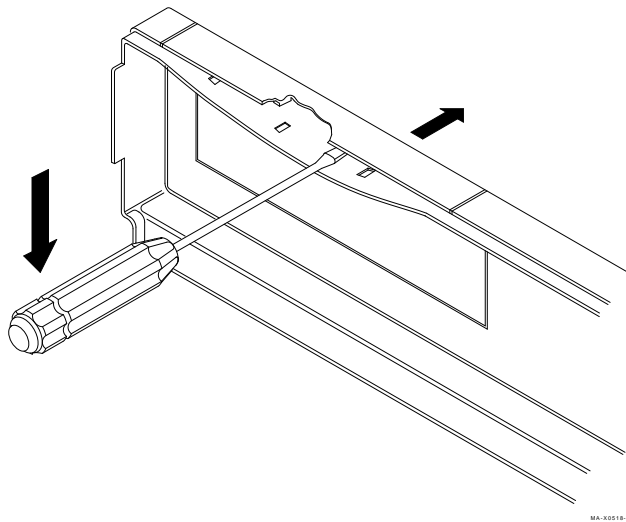

Figure 1-10 Separating the Bezel Insert from the Front Bezel
2. Separate the blank bezel insert from the front bezel (Figure 1-10).